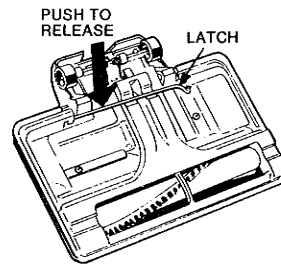
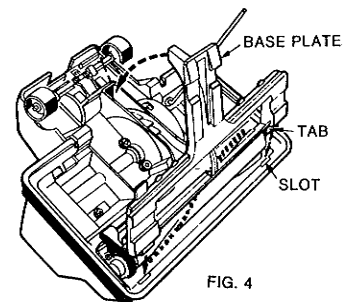

FIG. 3
FIG. 4
2. Remove metal base plate by first pushing down and releasing base plate latch (See Fig. 3) and then pulling the rear of the plate away from the housing (See Fig. 4).
4. Reassemble by inserting the tabs on the front of the base plate into the slots in the base housing, then pushing the contoured section down into the housing. (See Fig. 4)
2. Remove metal base plate. (See Fig. 3)